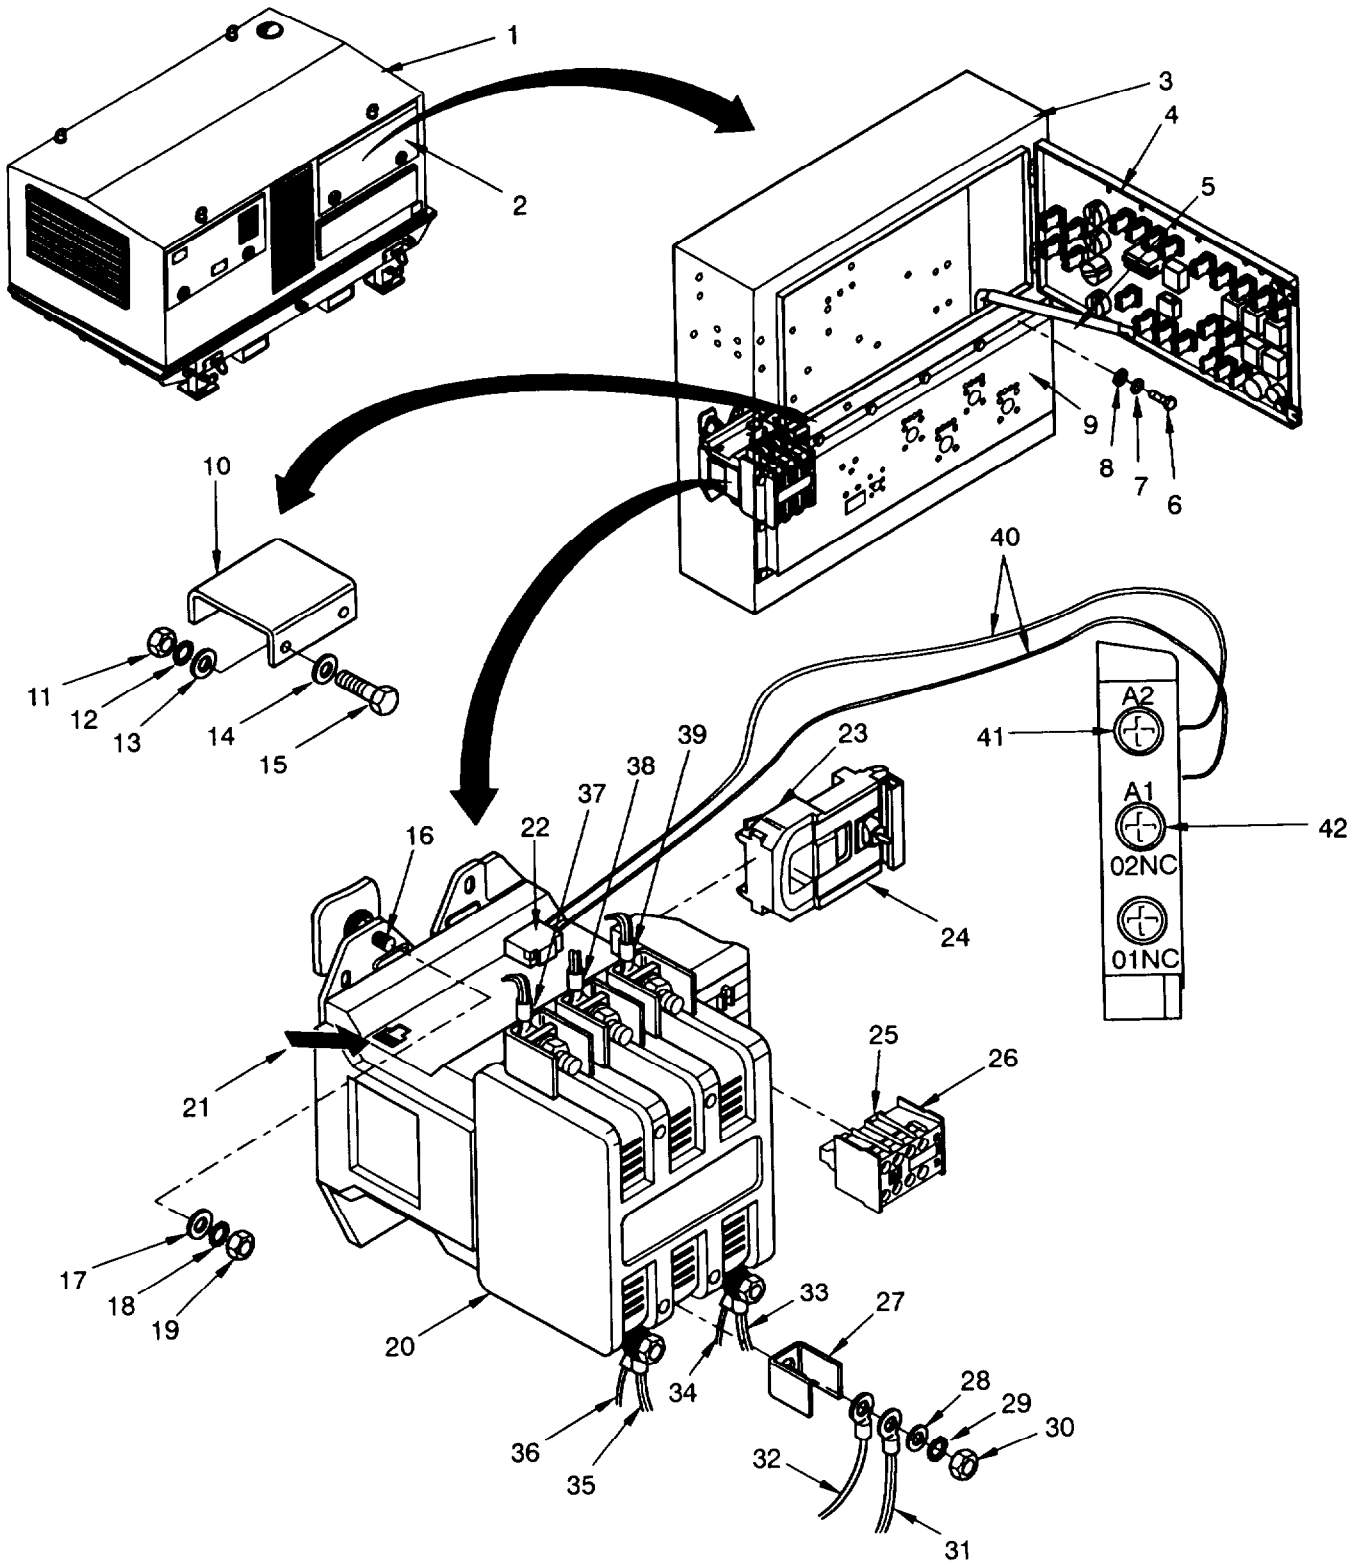

Figure 4-56 Control Cabinet Assembly, Contactor K1 Maintenance.
1. Open flap (2, figure 4-56) on unit hood assembly (1).
2. Open front panel (4) on control cabinet assembly (3) and secure with prop (5).
3. Remove eighteen screws (6), eighteen serrated lock washers (7), and eighteen washers (8) from panel (9).
4. Lower control cabinet connection panel (9) and prop.
5. Remove two nuts (11), two serrated lock washers (12), and two washers (13) from panel (10).
6. Remove two screws (15) two washers (14) and cover panel (10).
8. Remove six nuts (30) and disconnect cables (31, 33, 35 and 37 to 39), six serrated lock washers (29), six washers (28) and six heat sinks (27) from terminals of load contactor K1 (20).
9. Remove sensing cables (32, 34, 36) from terminals of load contactor K1 (20).
10. Disconnect cables (40) from diode V6 (22) at terminals A1 and A2 by loosening screws (41, 42).
11. Remove four nuts (19), four serrated lock washers (18) and four washers (17).